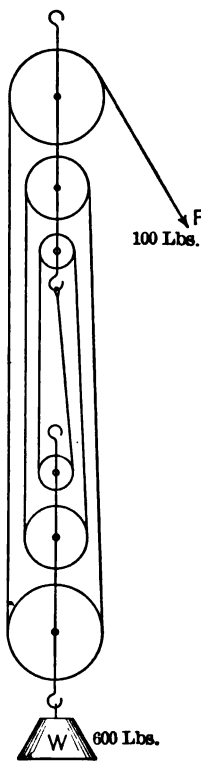

FIG. 9.
A combination of pulleys frequently used has three *sheaves* (wheels) in each block. There are six ropes running between the blocks. If we neglect friction, when a force of 100 pounds is exerted on the free end of the rope, each rope is put under a strain of 100 pounds and a weight of 600 pounds will be supported. In order to remove one foot of rope from each of the six supporting the weight the force must move through six feet. See Fig. 9.
4. If in Fig. 5, R is a crank 15 inches long (r) is 2 inches and the rope (w) is fastened to F of Fig. 9, what load (w) will a force of 100 pounds lift if the combined machine works at 60% efficiency? How far will the crank move to lift the weight 5 feet?